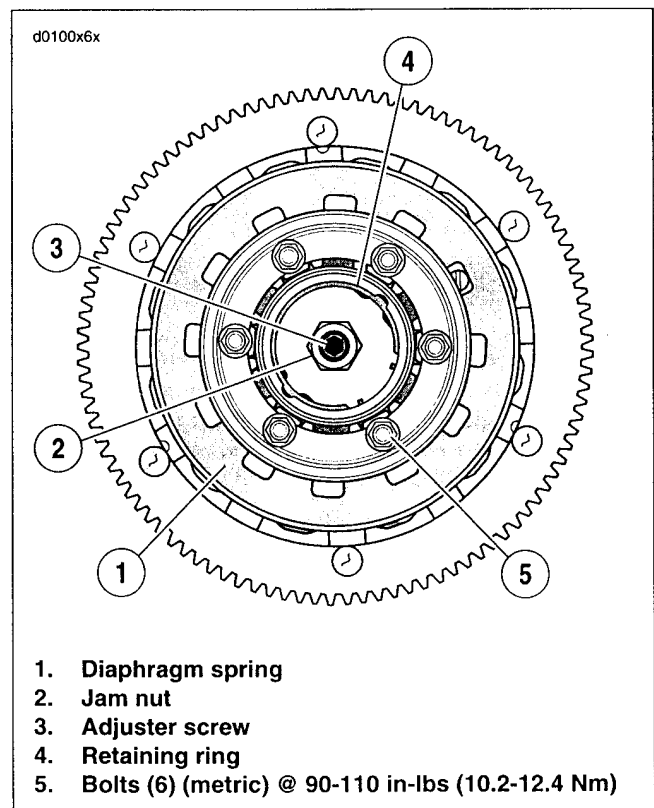

Figure 6-24. Assembled Clutch
12. See Figure 6-24. Seat diaphragm spring (1) in recess of pressure plate with the concave side down.
14. Install six bolts (5) (metric) to secure diaphragm spring retainer to clutch hub. Alternately tighten bolts to 90-110 in-lbs (10.2-12.4 Nm).